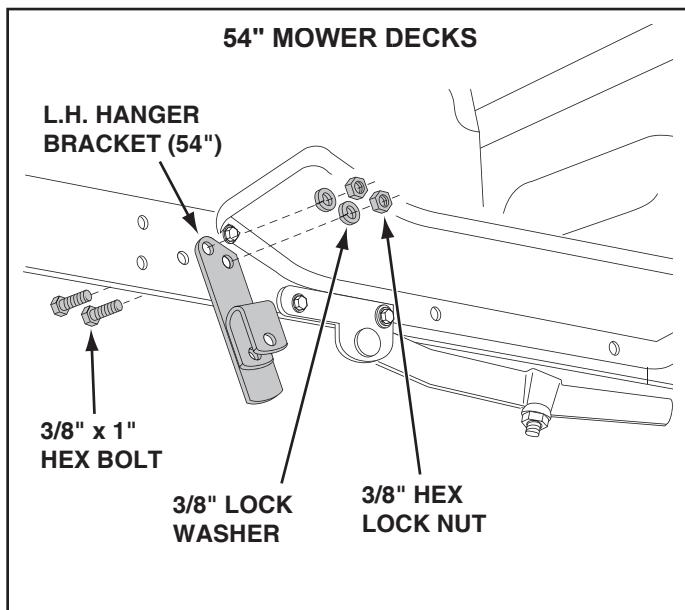

FIGURE 9
- Assemble the 54" L.H. hanger bracket to the holes where the mower stop bracket was removed on the left side of the tractor frame. Fasten with two 3/8" x 1" hex bolts, two 3/8" lock washers and two 3/8" hex lock nuts. See figure 9.